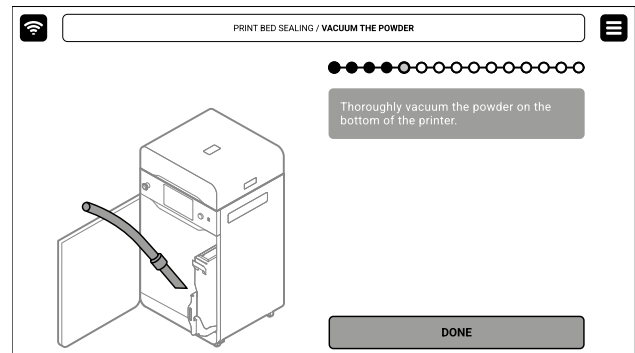

Fig. 13.29 Vacuum the powder on the bottom of the printer.
12. Choose the right nozzle and vacuum the surface under the Beds thoroughly (fig. 13.29). Press the **DONE** button.